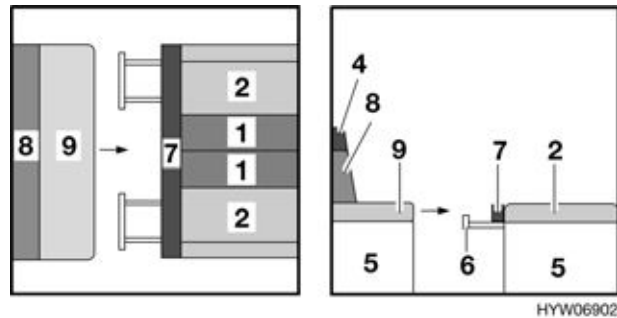

Fig. 85 During conversion
- Pull out as far as possible the bedding box extension (Fig. 85,6) on both bedding boxes of the central seating group.
- Lift the divan slightly (Fig. 85,9) and pull out as far as possible.
- Remove the additional cushion (Fig. 85,4) from the back cushion (Fig. 85,8). The additional cushion is fixed to the back cushion with Velcro and can easily be separated.